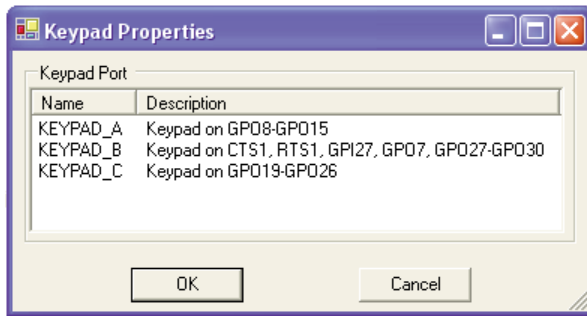

Figure 14.2
7. Click the **PROPERTIES** button. The Keypad Properties dialog will open. This dialog is used to configure the Keypad on the target. See Figure 14.2.